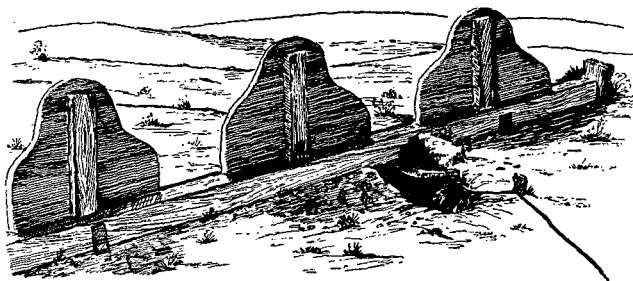

Figure 133. A method of raising surprise point targets. (Pull rope and counterweight in rear.)
d. A movable field target may be made by fastening E or F targets to a sled, or by suspending such targets from a wire (figs. 133 and 138).